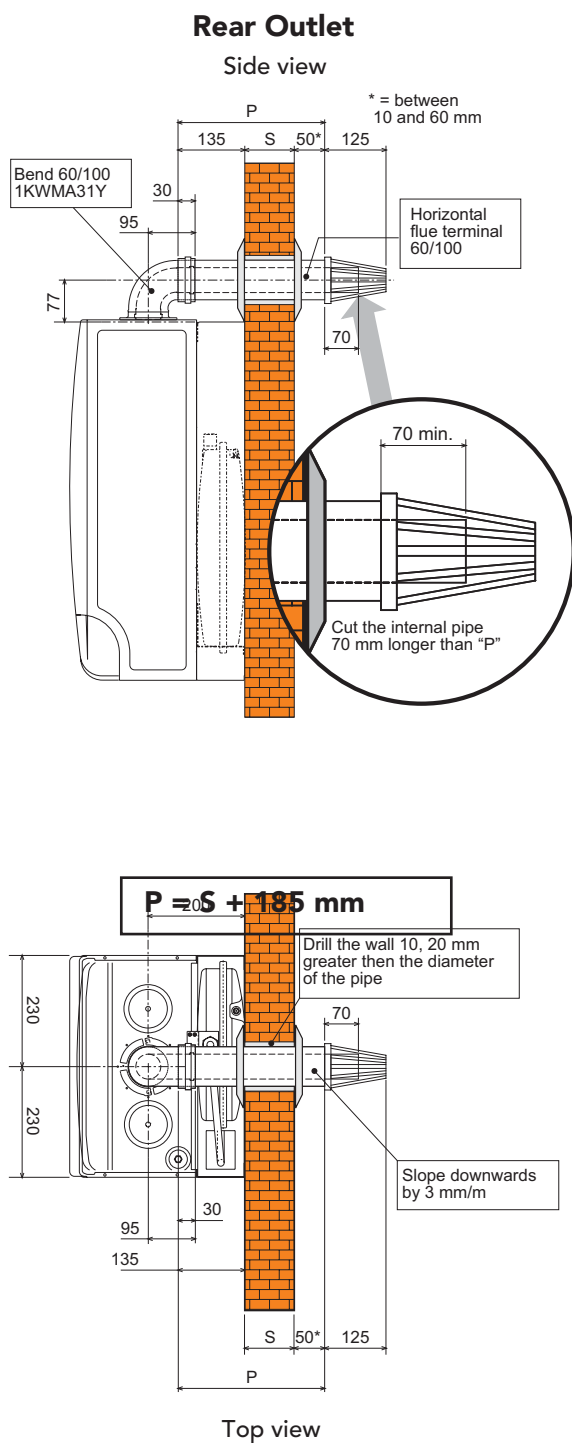

fig. 10a
4. If necessary, cut the end of the pipes to measure, remembering that the outside part of the pipes must protrude from the wall by between 10 and 60 mm (fig. 10a and 10b). Eliminate any burrs from the cut.